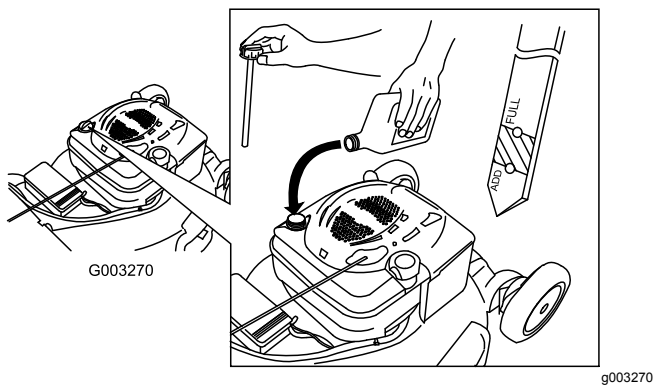

Figure 38
12. Remove the dipstick and read the oil level; refer to Figure 38.